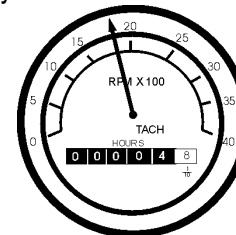

Figure 50. Engine Tachometer Gauge
- The **tachometer gauge** (Figure 50) will indicate the speed of the engine when the generator is operating. Under normal operating conditions this speed is approximately 1800 RPM's.